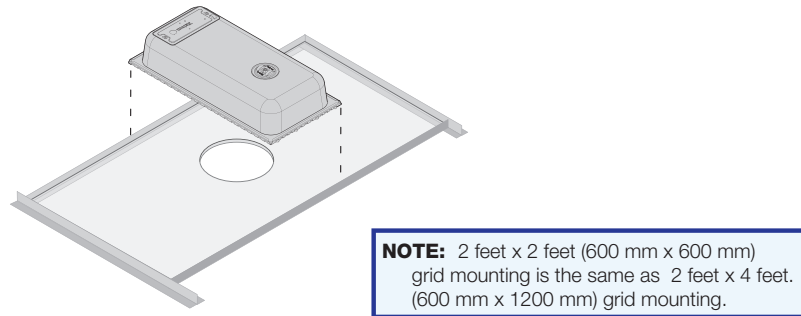

Figure 11. Mounting the CS 120P in a 2 feet x 2 feet (600 mm x 600 mm) Ceiling Grid
- 12. Place the CS 120P into the ceiling grid** — Place the CS 120P over the tile grid so that the CS 120P is safely supported on the two short edges. Ensure that the hole in the tile is aligned with the hole in the CS 120P (see figure 11).